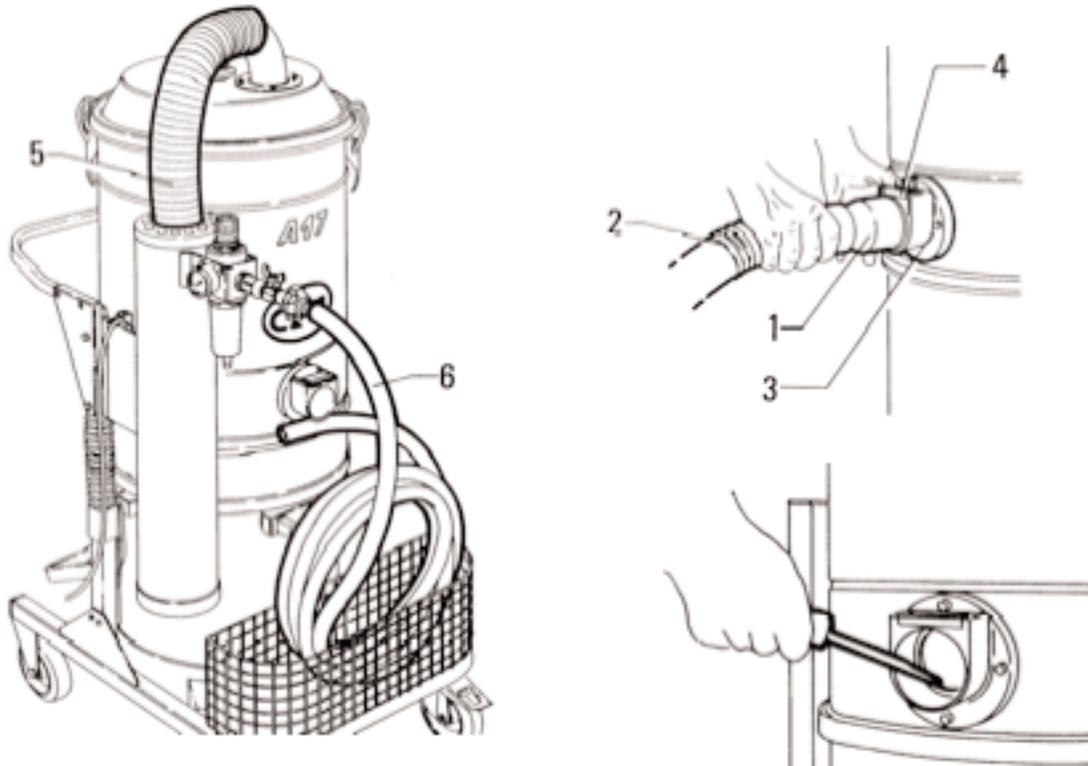

Fig. 7.3.9
7.3.6 Checking the condition of the hoses (fig 7.3.9)
To remove hose "2", just press plate "4" on outlet "3" as indicated in fig. 7.3.9.
Scrape outside the outlet and remove the deposited waste as indicated in fig. 7.3.9.